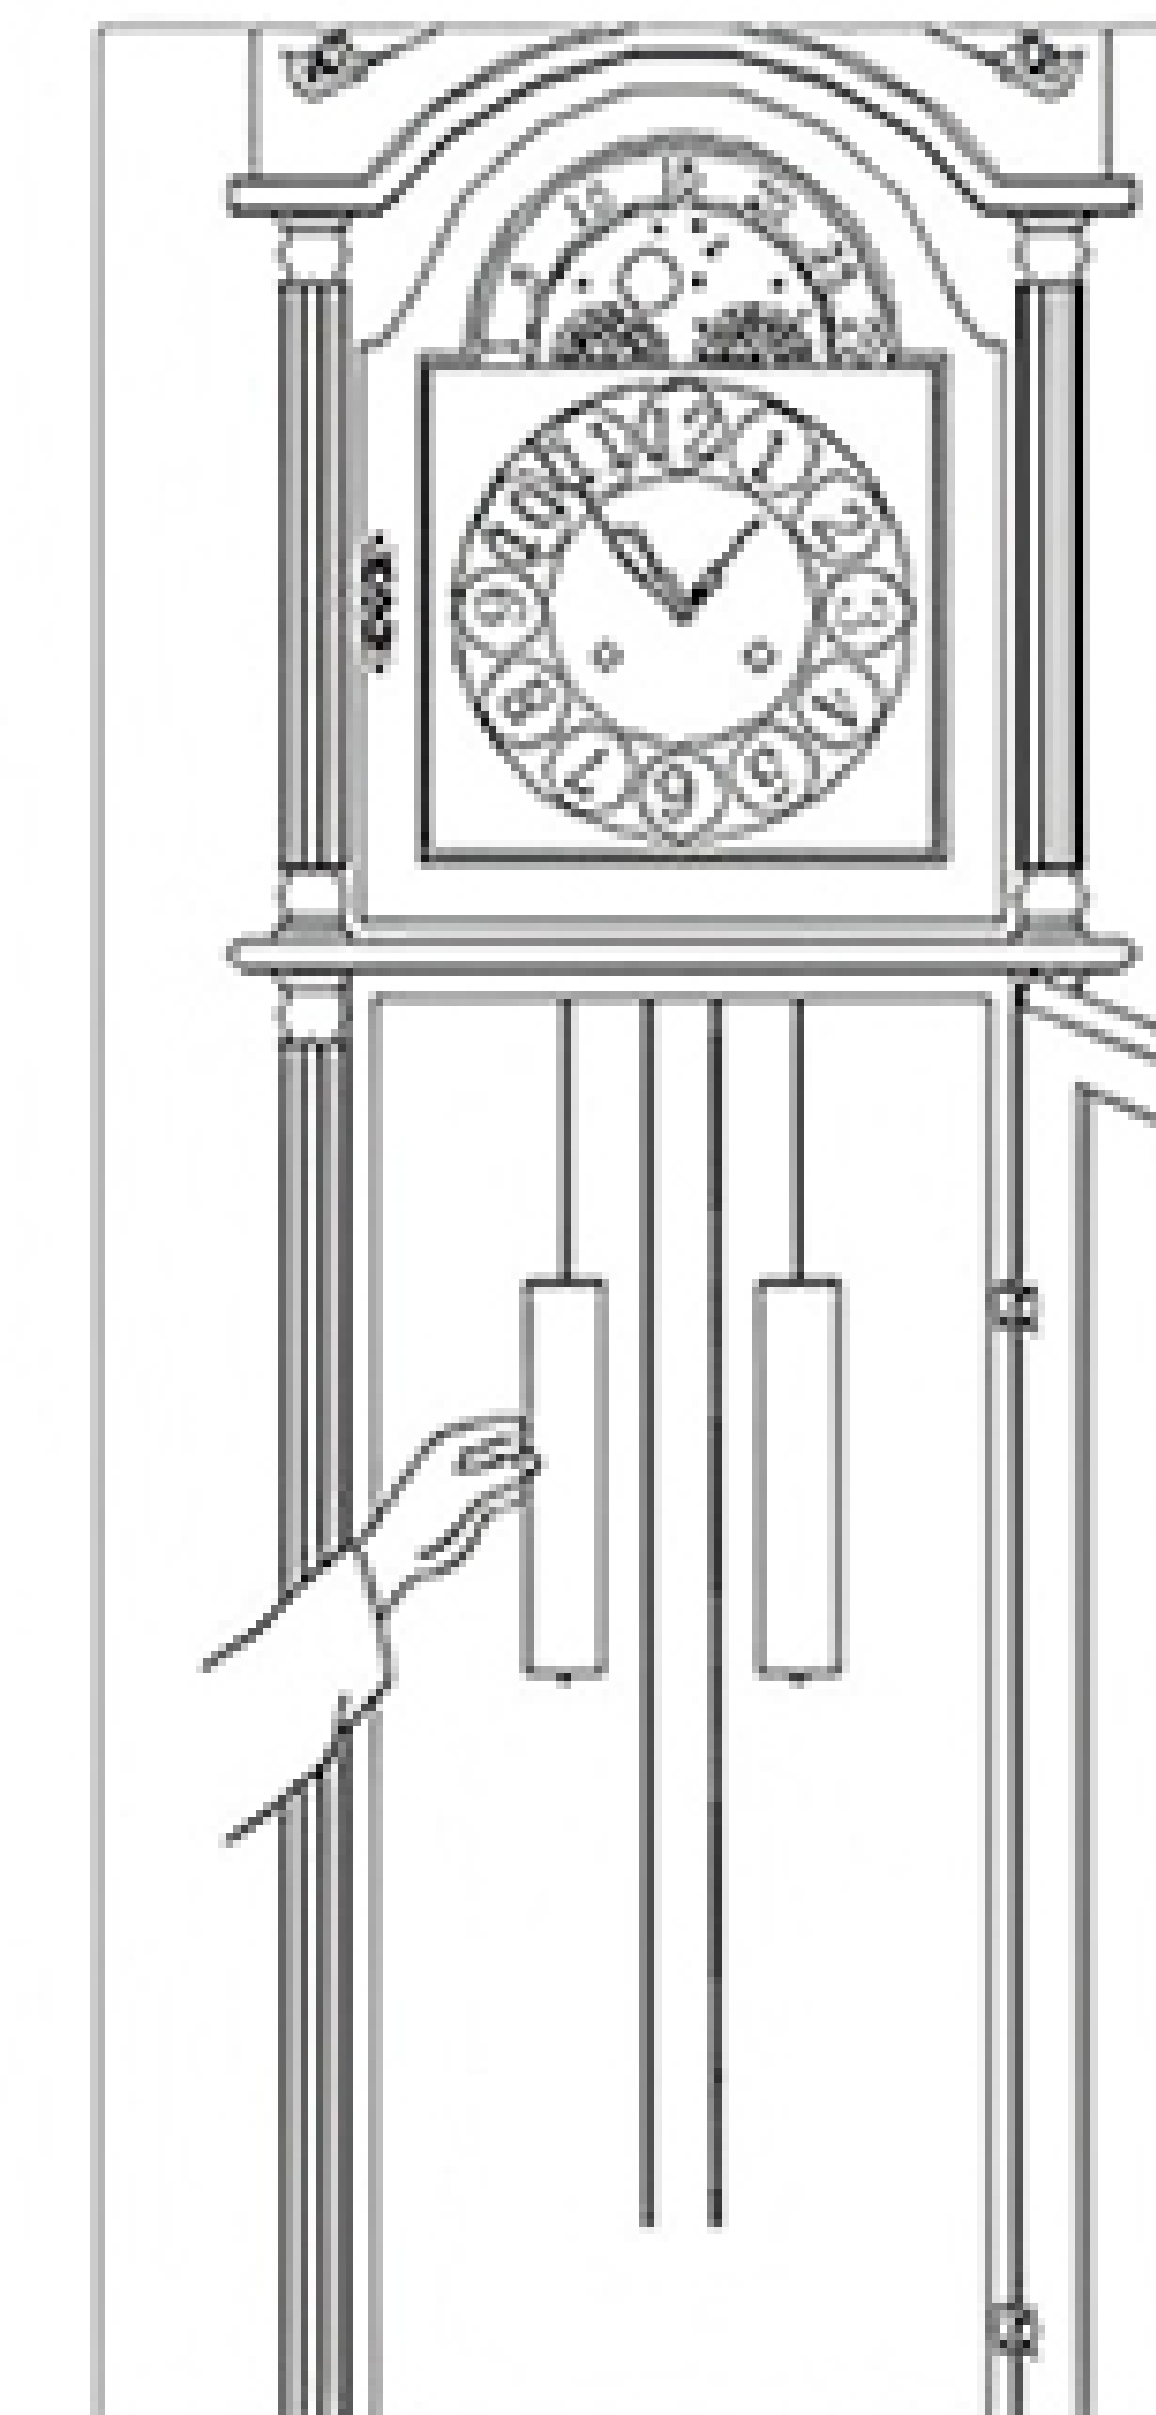

Figure 4
2. Check the chains for overlapping links and straighten them before installation. Secure each weight firmly onto its corresponding chain hook and release carefully to prevent falling damage (Fig.4).